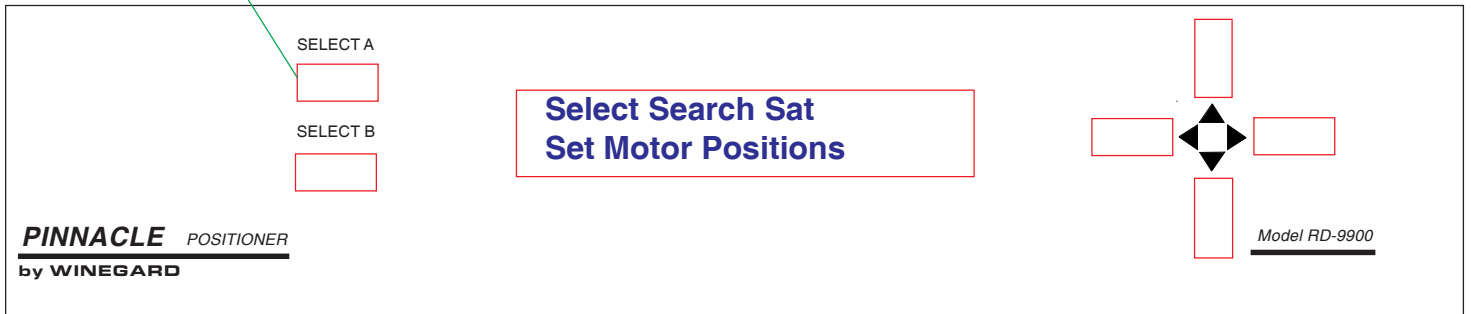

Figure 31
1. Press **[SELECT A]** Select Search Sat, see Figure 31.